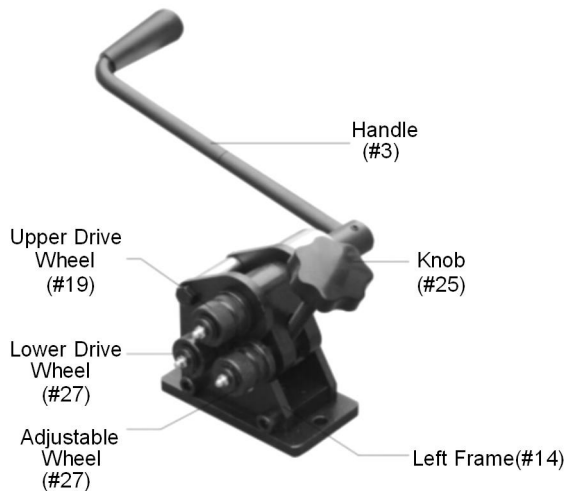

Figure 3
2. Move the ADJUSTABLE WHEEL (#27) up or down (as desired) by turning the KNOB (#25). See Figure 3.